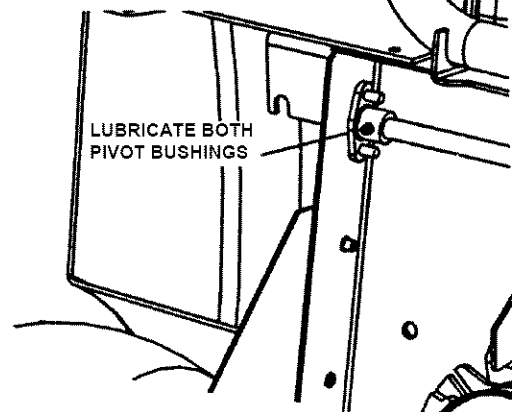

FIGURE 3.9
e. Lubricate both pivot bushings with three shots general purpose grease from grease gun. See Figure 3.9